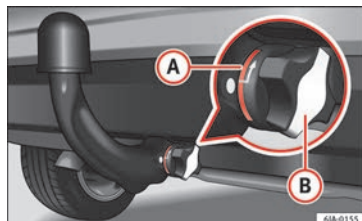

Fig. 104 Correct placement of the ball-headed bar.
- The red mark **(A)** **»» Fig. 104** on the manual regulator signals toward the white mark on the ball-headed bar.